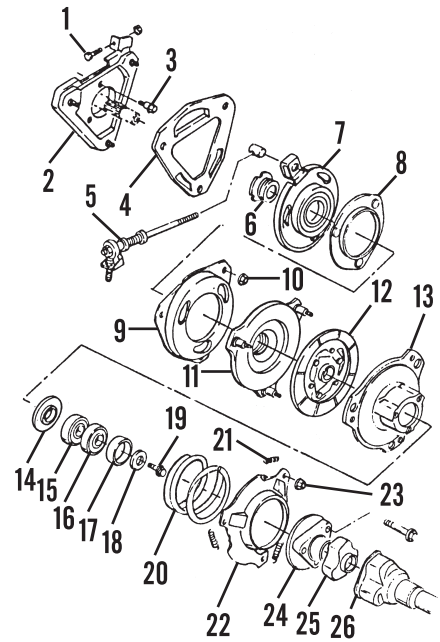
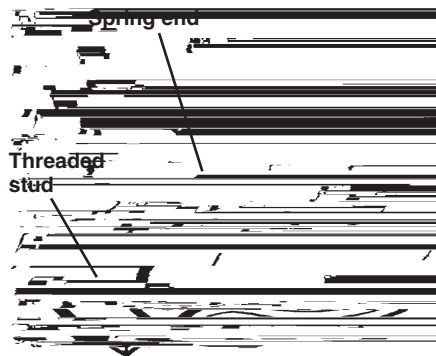
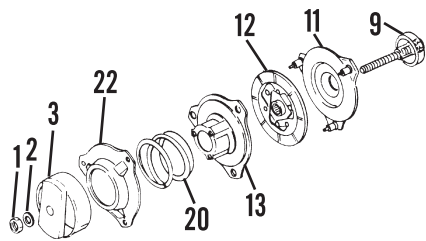

Fig. HN1-8—Exploded view of drive clutch assembly.
Fig. HN1-11—Align end of clutch spring with threaded stud prior to assembly.
Fig. HN1-10—Exploded view of spring-loaded clutch pack with special spring compressor tool 07960-75000A.
Hold the shift lever all the way toward the seat. Adjust position of the stopper bolt (1—Fig. HN1-8) so the end of the clutch rod lightly contacts the head of the stopper bolt.
Remove three screws retaining the damper hub (24—Fig. HN1-8) and remove the hub. Remove the cap screw (19) and washer (18). Remove the three nuts (10) and slide the clutch assembly off the transaxle input shaft.
spring compressor tool 07960-750000A or other suitable tool to compress the spring (20) in clutch pack (Fig. HN1-10). With the tool compressing the clutch pack, remove the three nuts (23—Fig. HN1-8). Slowly unscrew the spring compressor tool and disassemble the clutch pack.
The thickness of the clutch facing on the disc (12—Fig. HN1-8) should be 5.9-6.1 mm (0.232-0.240 in.). Replace the clutch disc if worn to a thickness of 4.5 mm (0.177 in.) or less.
When reassembling the clutch, refer to Fig. HN1-8. Align the spring end with one of the three threaded studs on the pressure plate (Fig. HN1-11). Install the clutch disc (12—Fig. HN1-8) with the splined hub’s long side toward the lifter plate (11).
Tighten the nuts (23 and 10—Fig. HN1-8) to 10-13 N·m (88-115 in.-lb.). Tighten the screw (19) to 24-30 N·m (18-22 ft.-lb.). Make certain the dust plate (4) is mounted on the clutch plate (2) and that the clutch plate studs are through the dust plate holes.